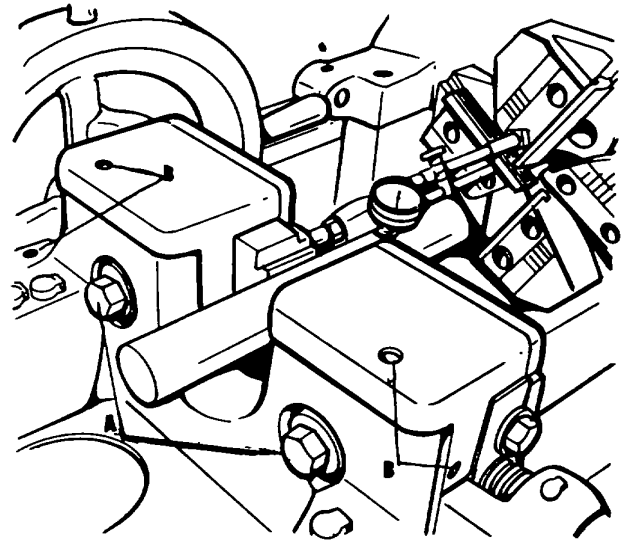

Figure 6
- (2) To determine off-centerness, place a piece of ground cylindrical stock in the grips. Attach a dial indicator to the die head by removing the chaser clamp screw nearest the bore of the head and insert the dial indicator as shown in Figure 6. Rotate the die head with the indicator in contact with the stock. This will show the off center relationship of the carriage front to the die head. Total allowable off center tolerance is $\pm .001$ ".
- (3) To recenter the carriage front, loosen the two clamping bolts A, Figure 6, which secure the fronts to the carriage. Rotate the four adjusting screws B, until the fronts are centered. Adjustments for both right and left hand carriage fronts on a double spindle machine are made in the same manner.
- (4) Air operated carriage fronts and also collet chucks are centered with the die head's center of rotation as described above.
- (1) After extensive usage, the leadscrew nut segments described above will require replacement to maintain lead accuracy.
- (2) To replace the nut segments, it is recommended that the carriage be removed from the machine. This can be accomplished by removing the outboard leadscrew bearing and moving the carriage rearward until it is disengaged from the bed ways. On 12C, 16C and 20C machines, it is recommended that the carriage front or vises be removed before attempting to lift the carriage. To do this simply loosen two clamping bolts A, Figure 6.